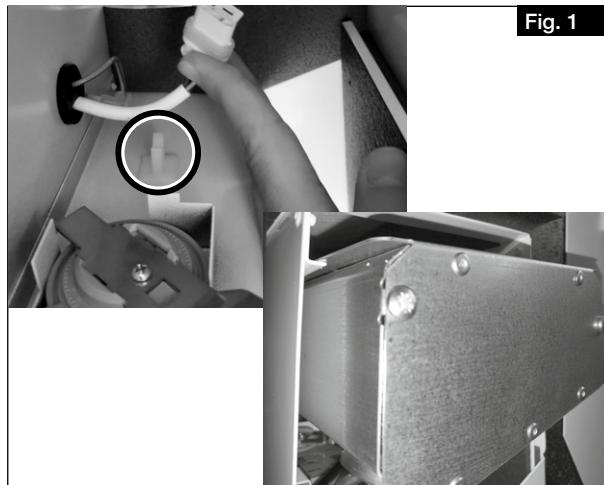
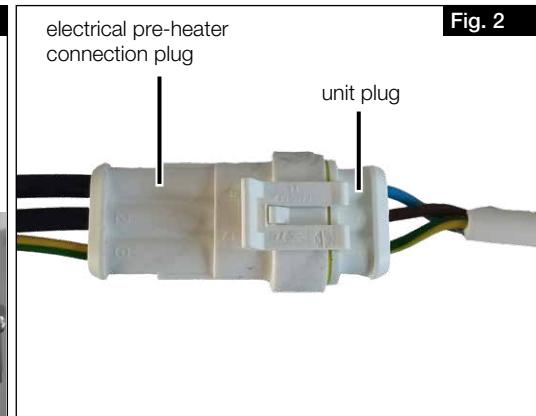

Fig. 1
Fig. 2
1. Remove the electrical pre-heater connection plug from the clip upwards (see Fig. 1).
2. Place electrical pre-heater into the guide rail and insert into the shaft (see Fig. 1).
① Ensure that the electrical pre-heater connection cable is located towards the centre of the unit and not towards the outside of the ventilation unit.
3. Clip the electrical pre-heater connection plug to the unit plug (see Fig. 2).
3. Place electrical pre-heater into the guide rail (see Fig. 1).
- ① **Ensure that the electrical pre-heater connection cable is located towards the centre of the unit and not towards the outside of the ventilation unit.**
5. Clip the electrical pre-heater connection plug to the unit plug (see Fig. 2).
6. Place the heat exchanger ① on the guide rail and push up to the stop.